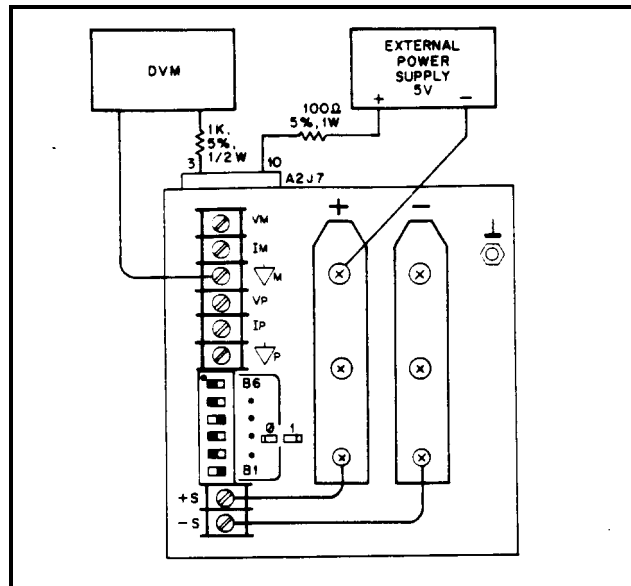

Figure 2-2. Remote Readback Zero And CV Zero Calibration Setup
- a. Connect an external supply to the power supply as shown in Figure 2-2.
- Connect an external supply to the power supply as shown in Figure 2-2.